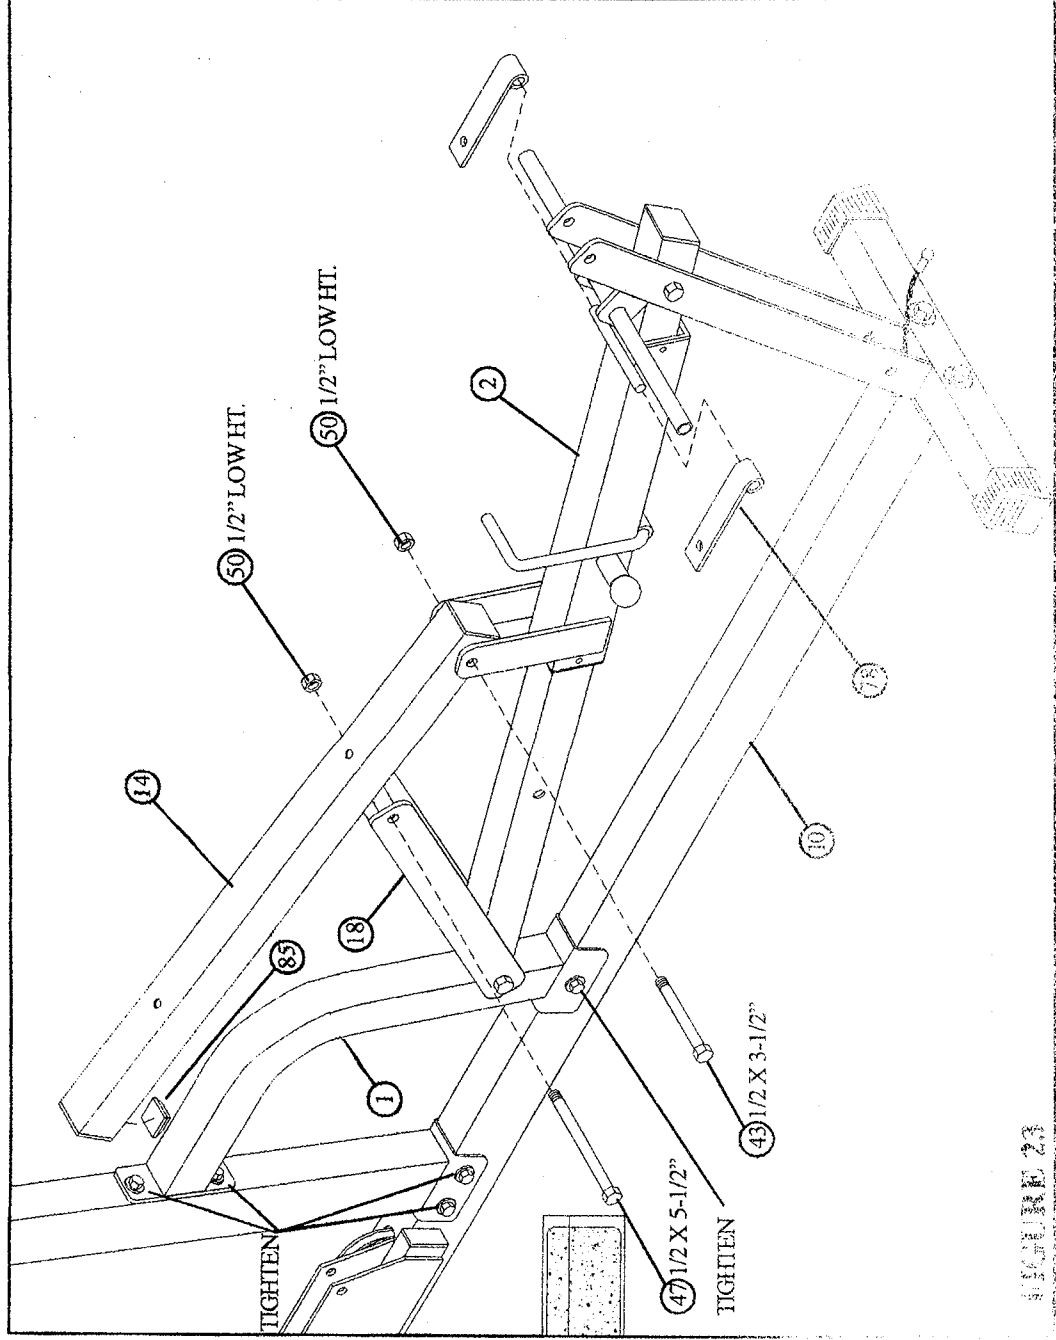

FIGURE 23
- Attach WOLFF SLEEVE (2) to the BACK PAD SUPPORT (14) using one 1/2 X 3-1/2" BOLT (43) and one 1/2" LOW HEIGHT LOCKNUT (50). (NOTE: Securely tighten, then back nut off 1/4 turn to allow the BACK PAD SUPPORT (14) to rotate freely.) See FIGURE 23.
- Attach both 2 X 16-1/2" PLATES (18) to the bushing on the BACK PAD SUPPORT (14) using one 1/2 X 5-1/2" BOLT (47) and one 1/2" LOW HEIGHT LOCKNUT (50). (NOTE: Securely tighten, then back nut off 1/4 turn to allow the 2 X 16-1/2" PLATES (18) to rotate freely.) See FIGURE 23.
- Slide one HINGE TAB (78) on each side of shaft on WOLFF SLEEVE (2). See FIGURE 23.
- Stick one 1-1/4" RUBBER BUMPER (85) on the BACK PAD SUPPORT (14) approximately 1/2" from the end of BACK PAD SUPPORT (14).